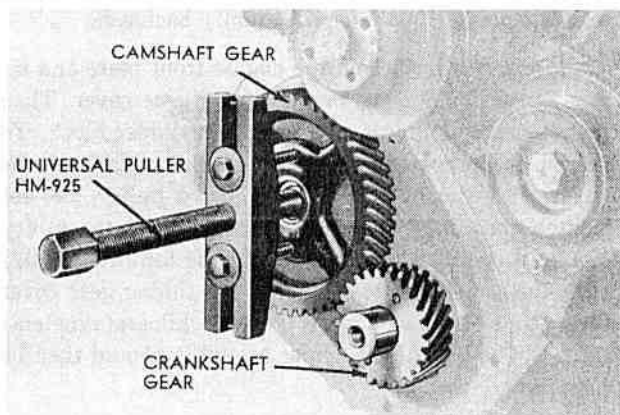

FIG. 153
**CHAMPION AND COMMANDER** Remove the vibration damper assembly, and with Universal Puller HM-925, remove the fan drive pulley. Then remove the timing gear cover, and using the same puller, remove the crankshaft and camshaft gears (see Fig. 153).